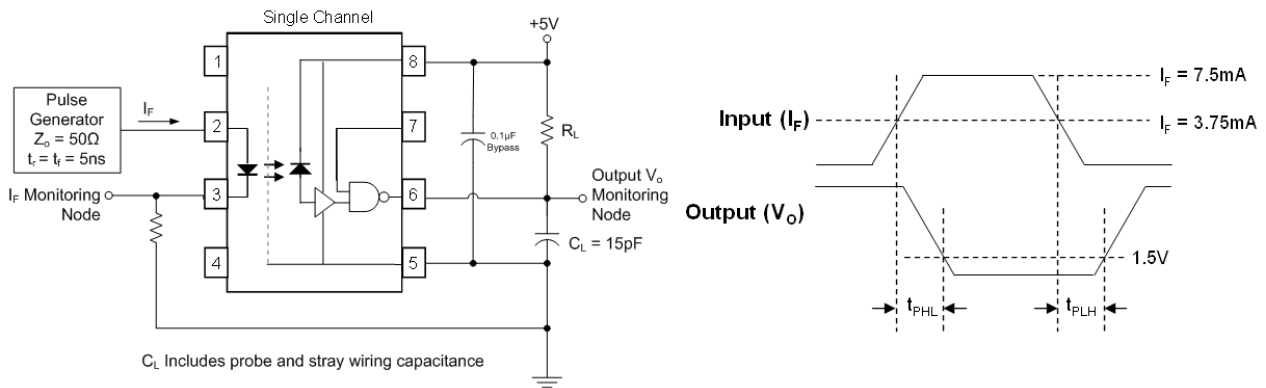

Figure 1: Single Channel Test Circuit for  $t_{PHI}$  and  $t_{PLH}$
1. A 0.1μF or bigger bypass capacitor for VCC is needed as shown in Fig.1